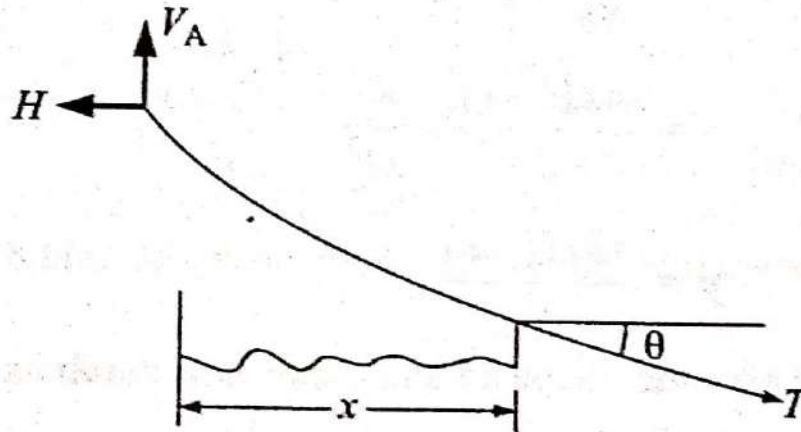

Figure 7: Free body diagram of cable
- If V is shear force at any section X-X distance x from A as shown in Figure 7.